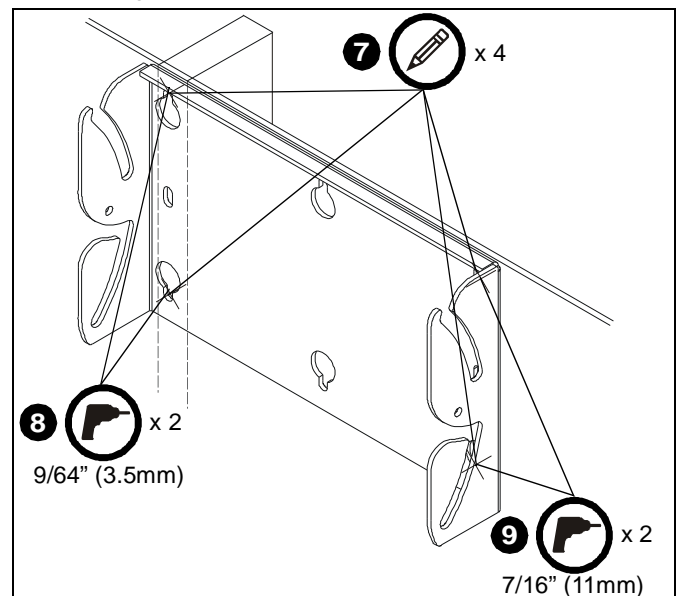

Figure 3
7. Using wall bracket (P) as a template, mark two hole locations at center of wood stud and two hole locations in drywall at desired mounting height. Use a level to ensure mount will be level. (See Figure 3)
8. Drill two 9/64" (3.5mm) holes at marked locations on wood stud. (See Figure 3)
9. Drill two 7/16" (11mm) holes at marked locations on drywall. Ensure holes are straight and completely through drywall. (See Figure 3)